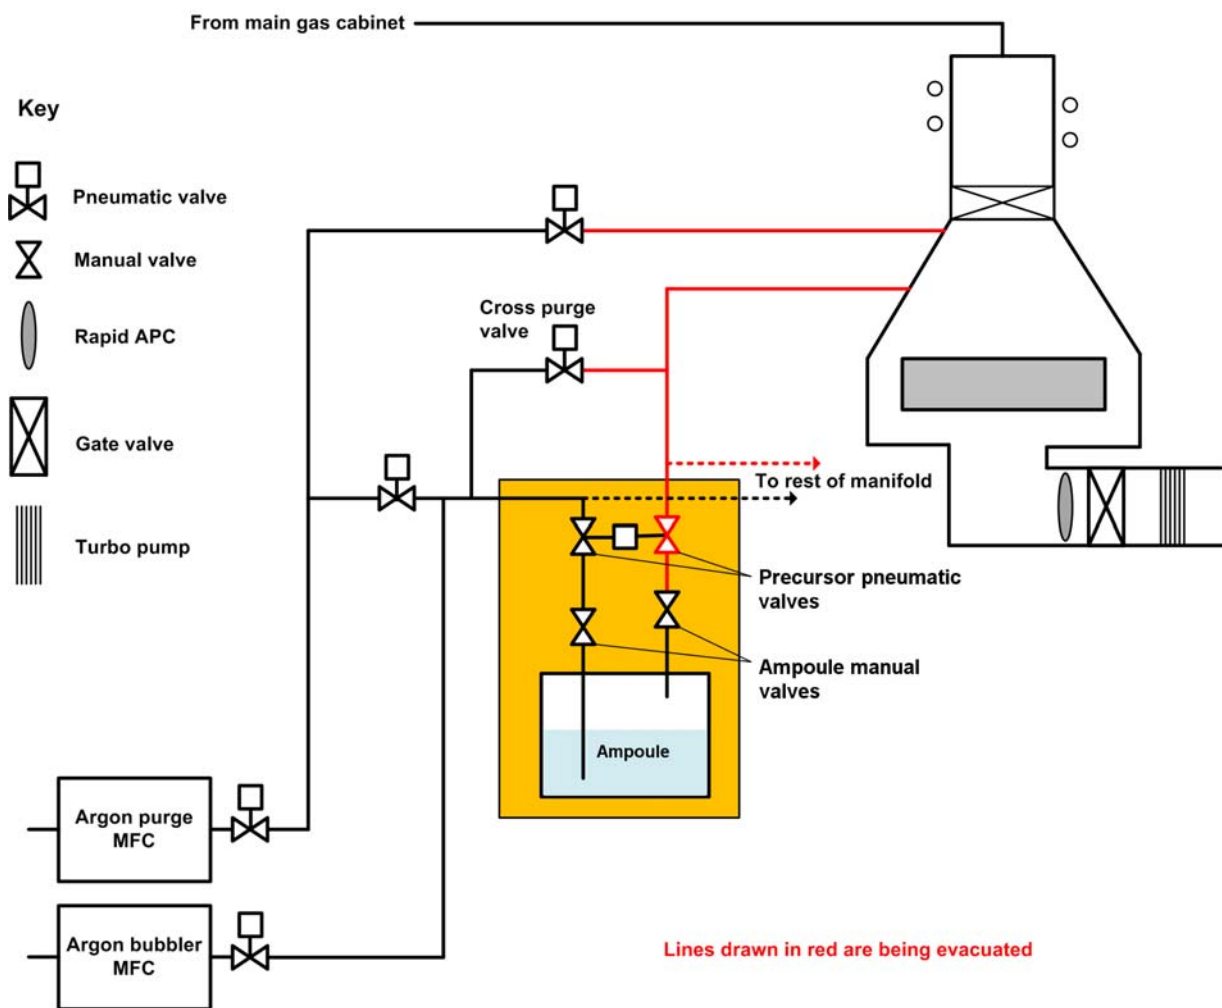

Figure 3-6 Opening all the outlet precursor valves on a manifold
- 1 At the Process Control page, open the pneumatic valves on all the precursors in the selected manifold. This pumps the section of pipe between the ALD dose valve and the VCR blanking fitting. Pump the system for at least 15 minutes (see Figure 3-6).